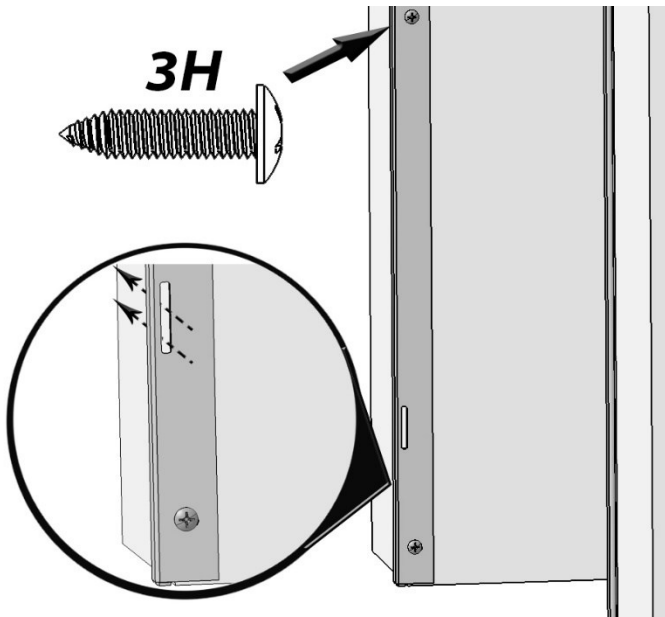

Figure 15
10. Using eight 3H screws and a power drill, attach the two Side Trim Attachment brackets to the front left and right cabinet cut-out edges with the brackets touching the floor (Figure 15). Ensure that the rectangular slots extend over the cabinet edge.